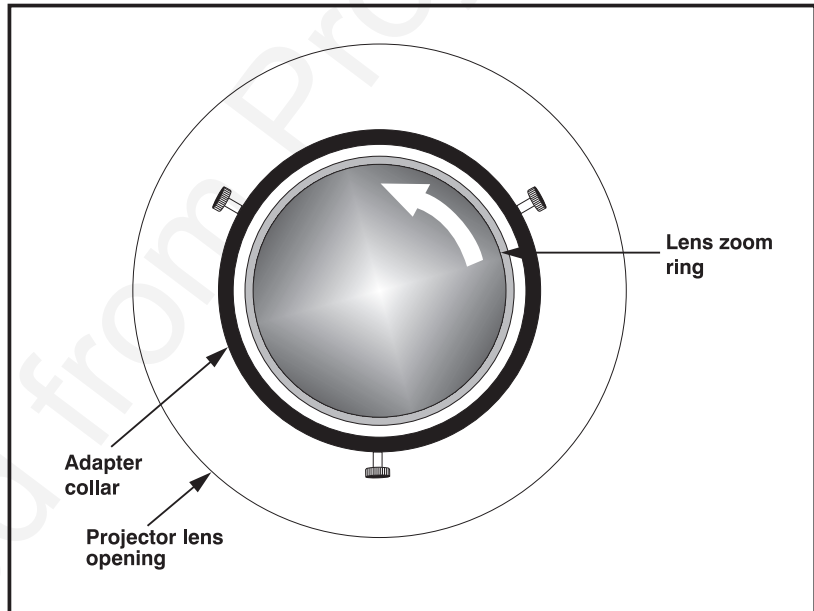

Figure 4-9. Turn lens zoom ring **ALMOST** as far as possible
- e) Face the front of the projector and manually turn the lens zoom ring counter-clockwise as far as possible (see Figure 4-9). Then turn clockwise very slightly — about an eighth of an inch.